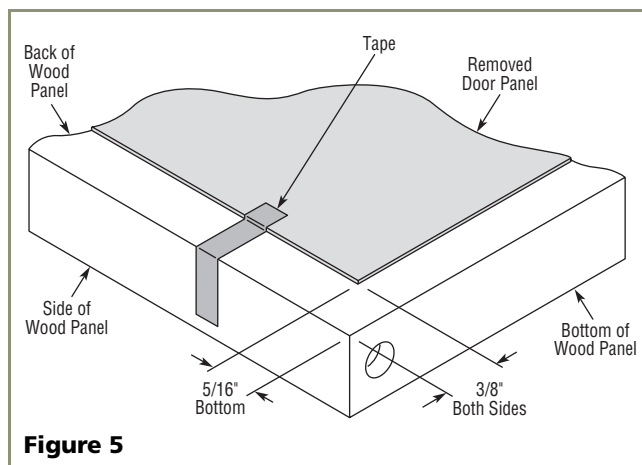

Figure 5
1. Place and tape the existing door panel on the back of the overlay panel (see **Figure 5**) and drill holes through both panels according to **Figure 6**. Remove tape adjoining the panels and enlarge the six holes in the overlay panel using a 0.201" (#7) drill.